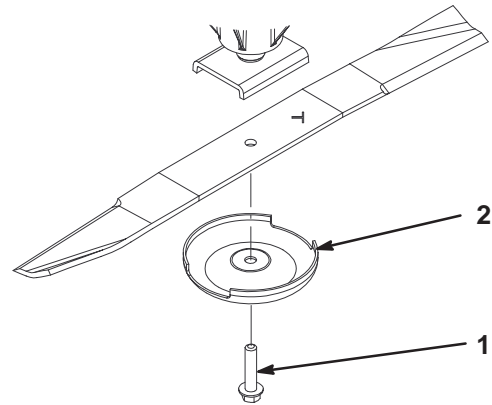

Figure 12
2. Grasp end of blade using a rag or thickly padded glove. Remove blade bolt, anti-scalp cup, and blade from spindle shaft (Fig. 12).
3. Install blade, sail facing toward cutting deck, with anti-scalp cup and blade bolt (Fig. 12). Tighten blade bolt to 85–110 ft.-lb. (115–149 N·m).